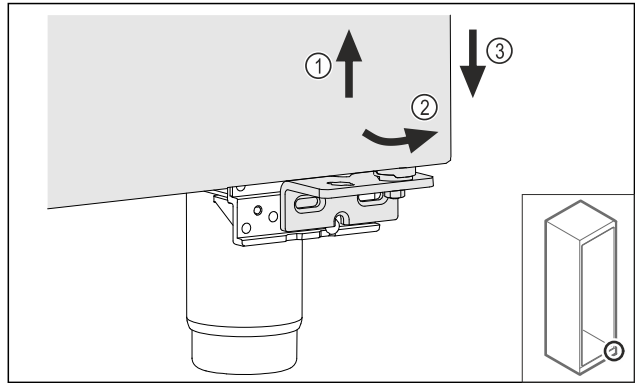

Fig. 18
- ▶ Lift the door slightly Fig. 18 (1), tilt it forwards at the bottom Fig. 18 (2) and lower it Fig. 18 (3).